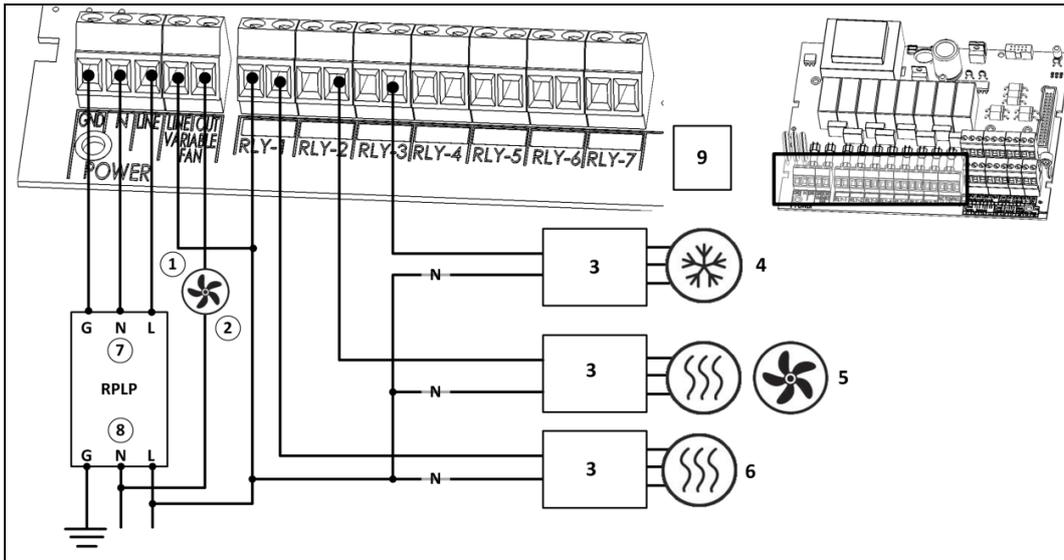
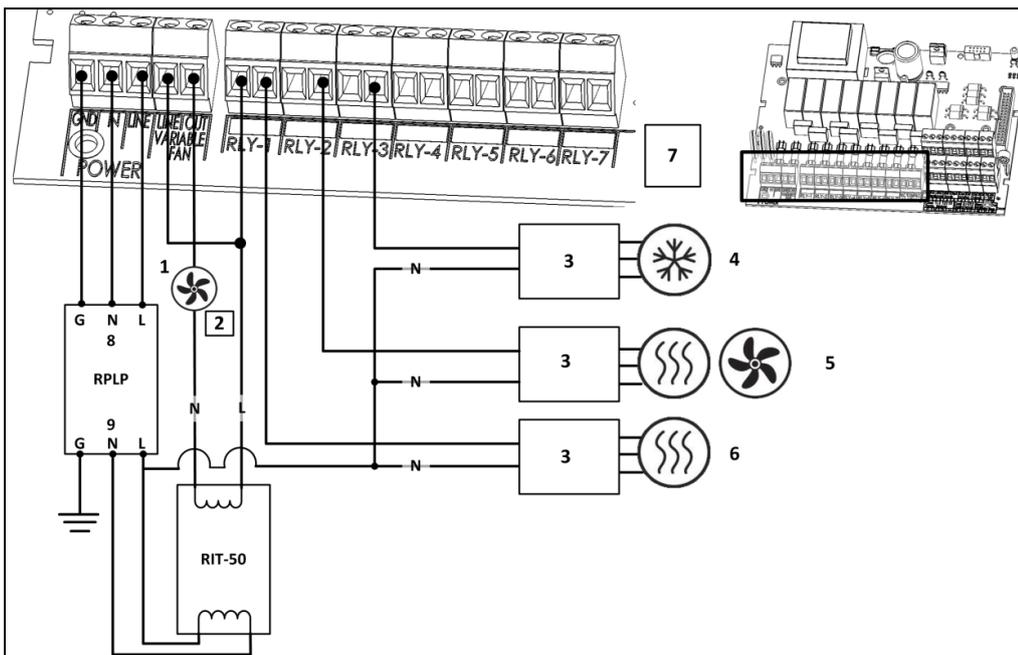
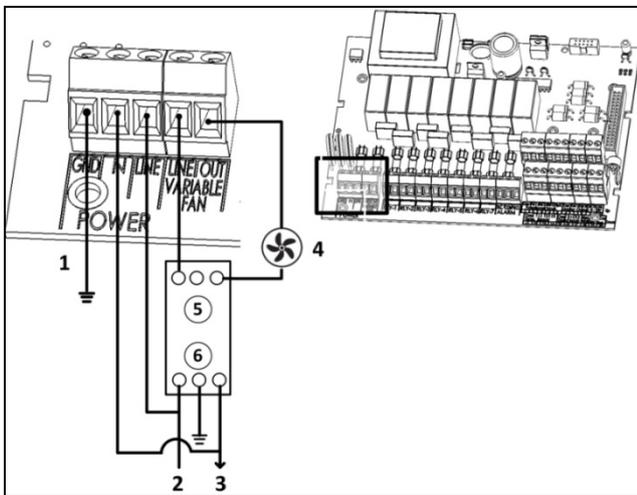

Figure 4: Smart C Wiring Diagram of Main Voltage Section (No Filter) and Protection
Figure 5: Smart C Wiring Diagram of Main Voltage Section (No Filter) having Protection and Isolation
Figure 6: Smart C Wiring Diagram of Main Voltage Section Showing Filtering
- Figure 4: Smart C Wiring Diagram of Main Voltage Section (No Filter) and Protection
- Figure 5: Smart C Wiring Diagram of Main Voltage Section (No Filter) having Protection and Isolation
- Figure 6: Smart C Wiring Diagram of Main Voltage Section Showing Filtering
Figure 4 key
Figure 5 key
Figure 6 details how to wire an EMC filter to the controller. All the remaining wiring to the main voltage section remains as illustrated in Figure 4 and Figure 5.
Figure 6 key